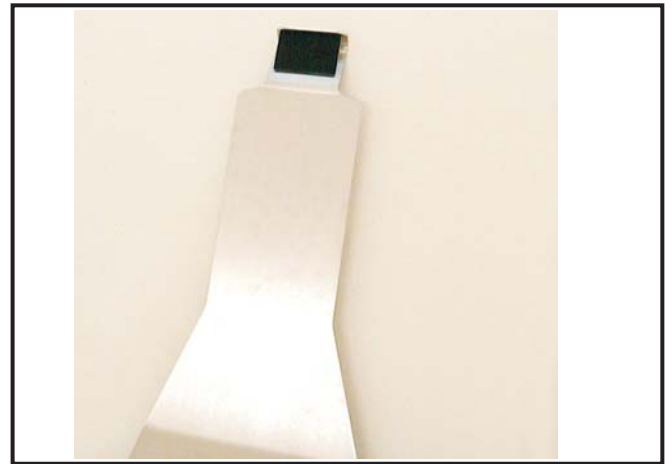
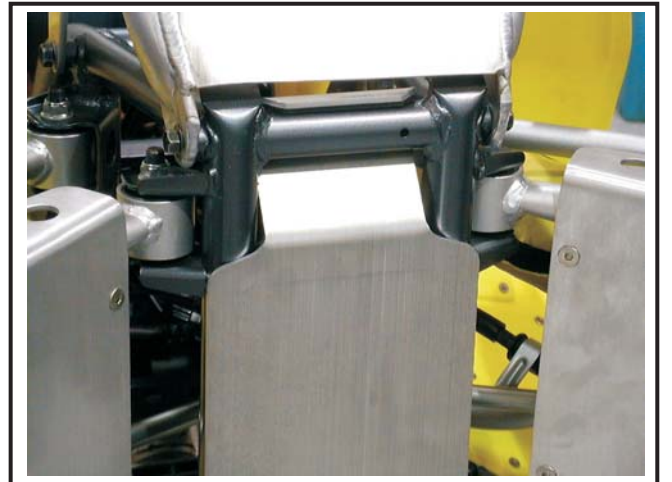

Fig. 1
Fig. 2
1. Take skid plate and supplied rubber nose cushion (2" X 3" piece - See Fig. 1)). Hold cushion temporarily in place on skid plate and hook front of skid plate in place over frame of ATV (See Fig. 2). Using pencil make a mark on skidplate for alignment of cushion. Remove skidplate & cushion from ATV.